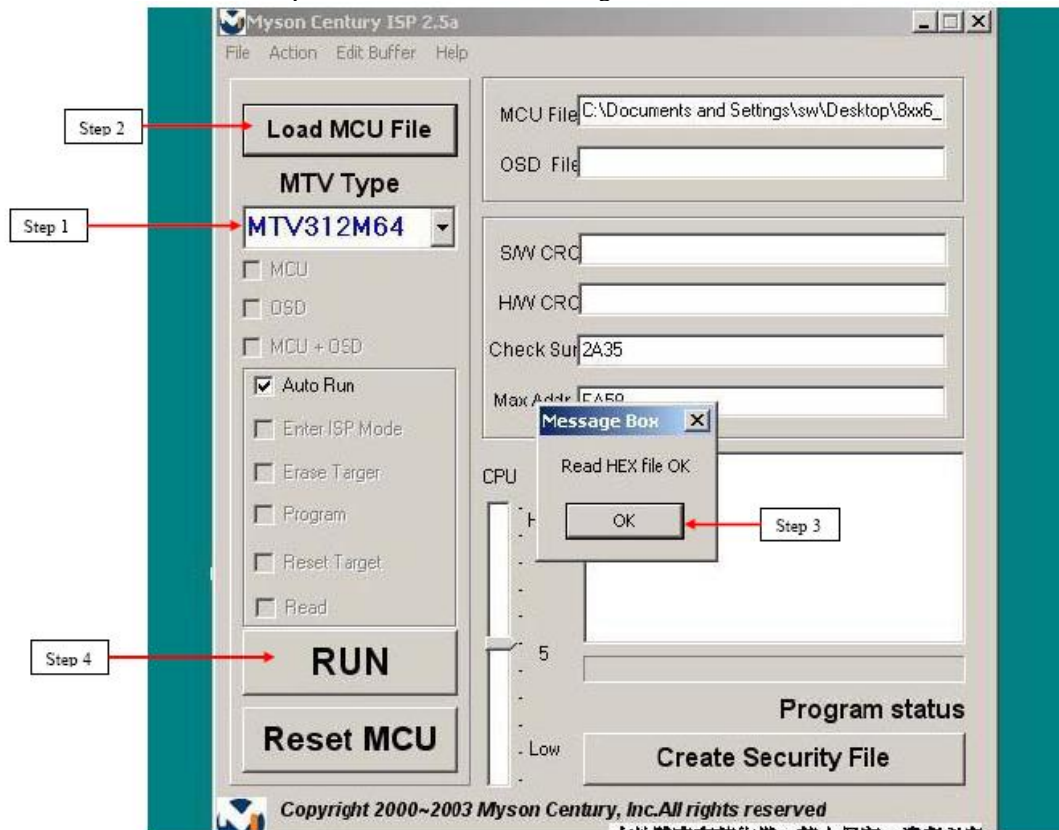

Fig. 3.1
- 3.1 Select MTV type first , load the binary or intel hex file that you want to program into the MCU , and select “AUTO” item , then press “ RUN “ button , see fig3.1